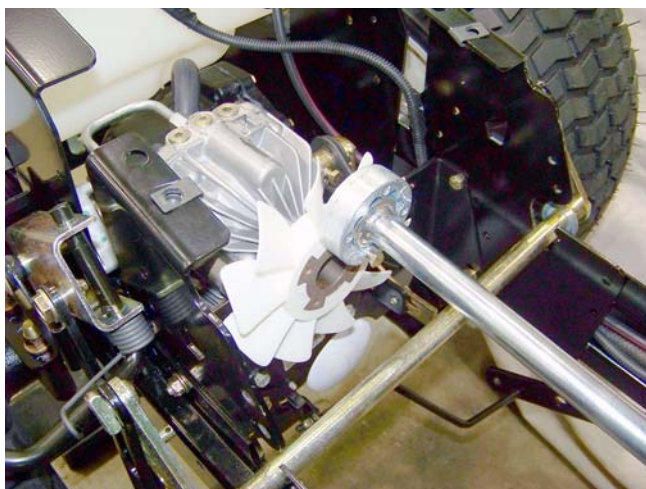

Figure 8.34
13. Install one of the drive shaft bolts to hold the drive shaft in place. See Figure 8.34.
15. Install one of the drive shaft bolts to hold the drive shaft in place. See Figure 8.34.